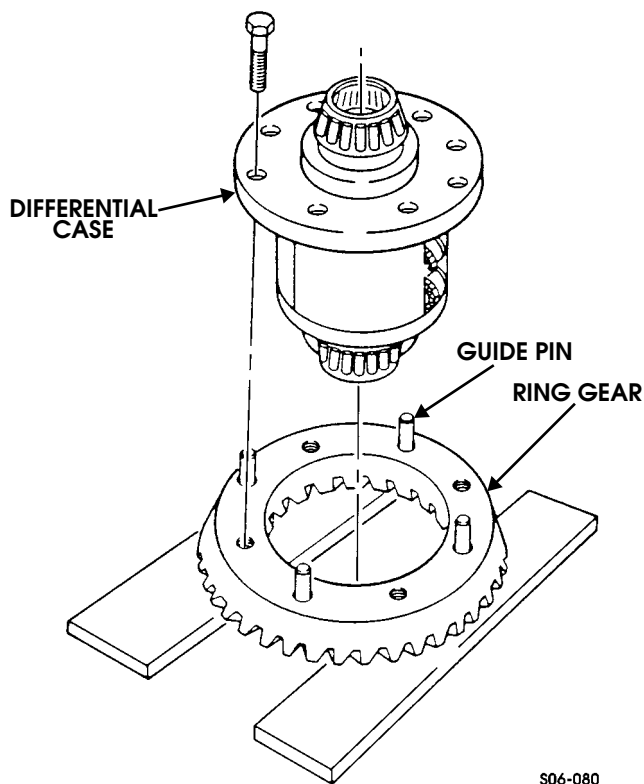

Figure 9-93: Ring Gear Guide Pin Installation
42. Install four guide pins in ring gear (Figure 9-93).